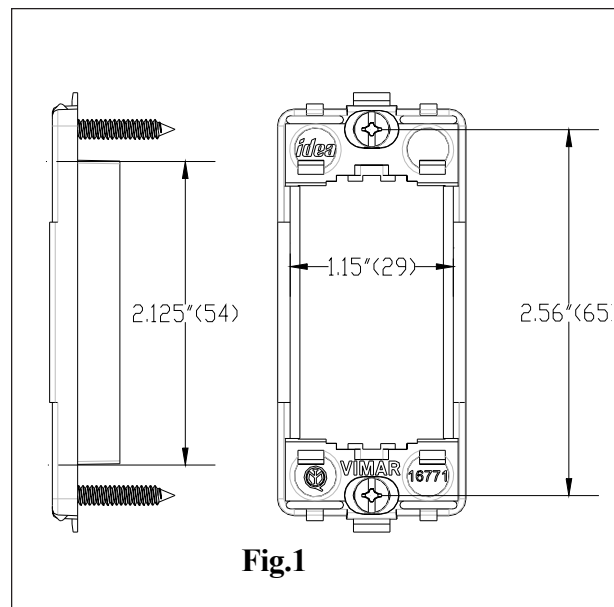

Fig.1
1. Cut out a hole per Fig. 1, mark mounting holes using wall plate as guide.